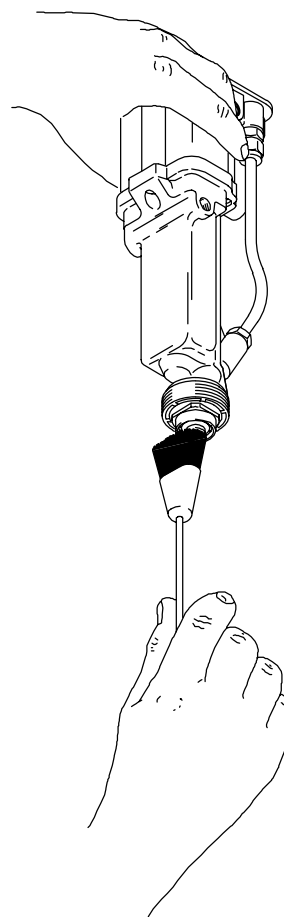

Fig 9
3. Clean the air cap, fluid nozzle, and front of the gun, using the soft bristle brush and solvent. Point the gun down while cleaning to prevent dirty solvent from running back into the air passages. See Fig 9 .